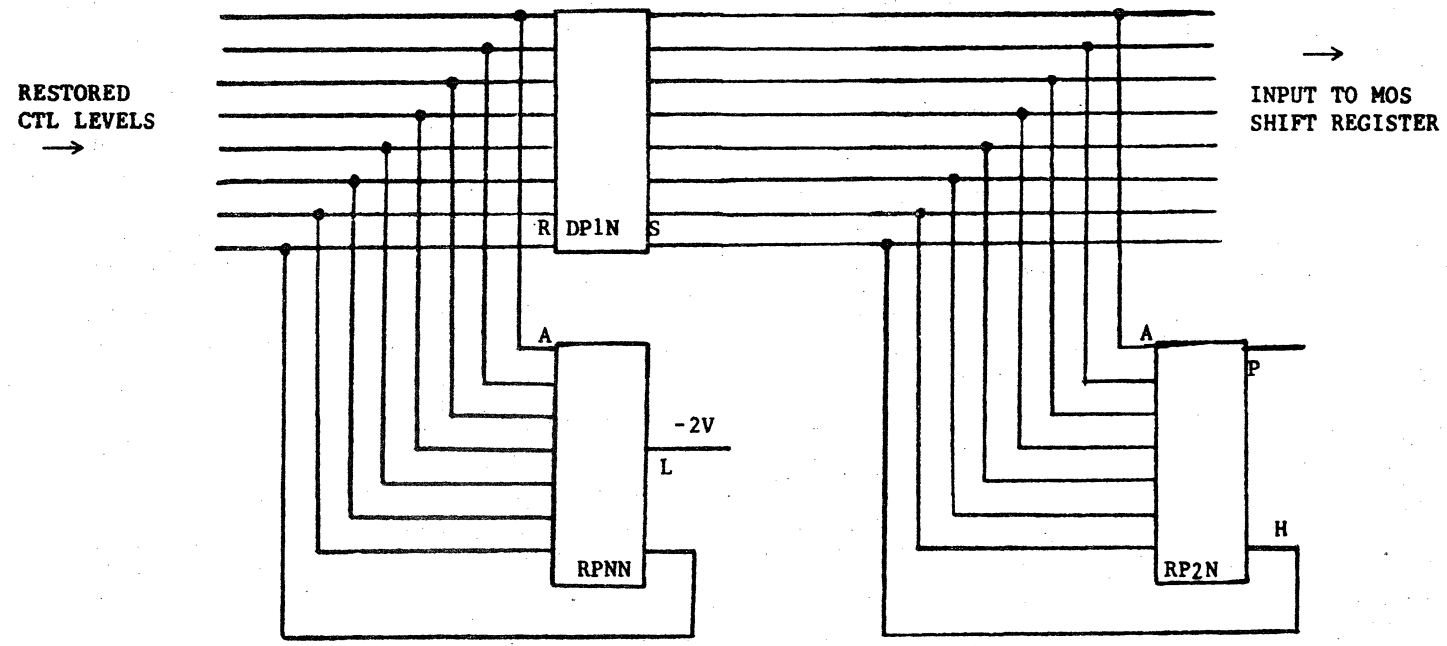

FIGURE 1
- 13) Possible CTuL to MOS interface for Data input is described in Figure 1.